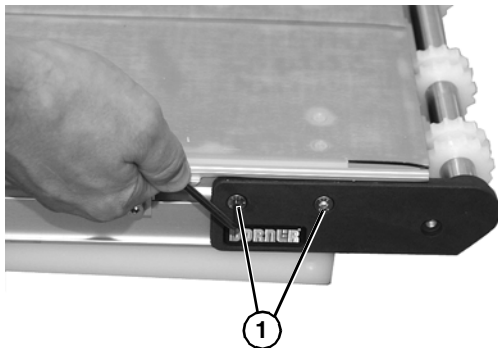

Figure 48
- Remove two head plate fastening screws (**Figure 48, item 1**) from opposite side of conveyor.